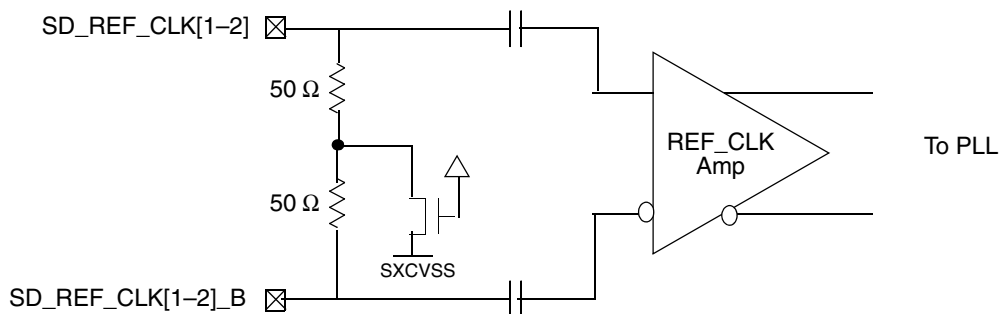

Figure 37. Receiver of SerDes Reference Clocks
The SerDes reference clock inputs are applied to an internal PLL whose output creates the clock used by the corresponding SerDes lanes. The SerDes reference clock inputs are SD\_REF\_CLK1/SD\_REF\_CLK1\_B or SD\_REF\_CLK2/SD\_REF\_CLK2\_B. Figure 37 shows a receiver reference diagram of the SerDes reference clocks.
- The SD\_REF\_CLK[1-2] and SD\_REF\_CLK[1-2]\_B are internally AC-coupled differential inputs as shown in Figure 37. Each differential clock input (SD\_REF\_CLK[1-2] or SD\_REF\_CLK[1-2]\_B) has on-chip 50- $\Omega$  termination to XCOREVSS followed by on-chip AC-coupling.